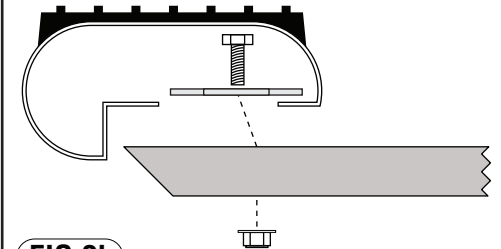

FIG 2b TOP VIEW
- 3) Rotate clamp brackets above main brackets, making sure that both edges of the running board are in-between the clamp bracket and the main bracket. Install 5/16" hex bolt through center hole of bracket clamp and oblong hole of main bracket placing 5/16" flange nut on bottom side (Fig 2b).